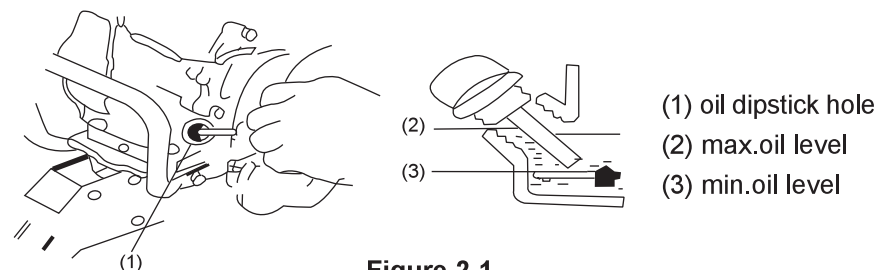

Figure 2-1
2.1 Check lube oil level: (Refer to Figure 2-1)